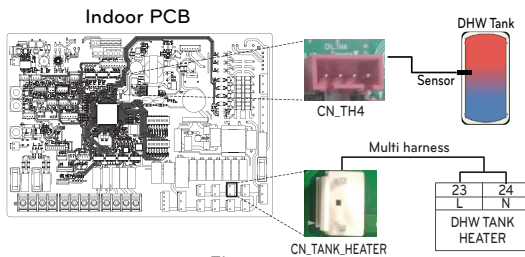

Fig. 1
Step 5. Connect power supply to the DHW tank kit as shown fig. 1.